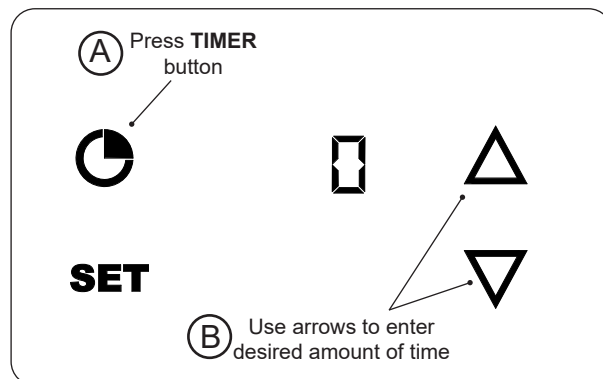

Fig. 36-1 Set timer
1. With the thermometer/thermostat **on**, press the **TIMER** button once (Fig. 36-1, A). A zero will display indicating that no timer is set.
2. Press the **UP** or **DOWN** arrows to enter the desired amount of time (Fig. 36-1, B).